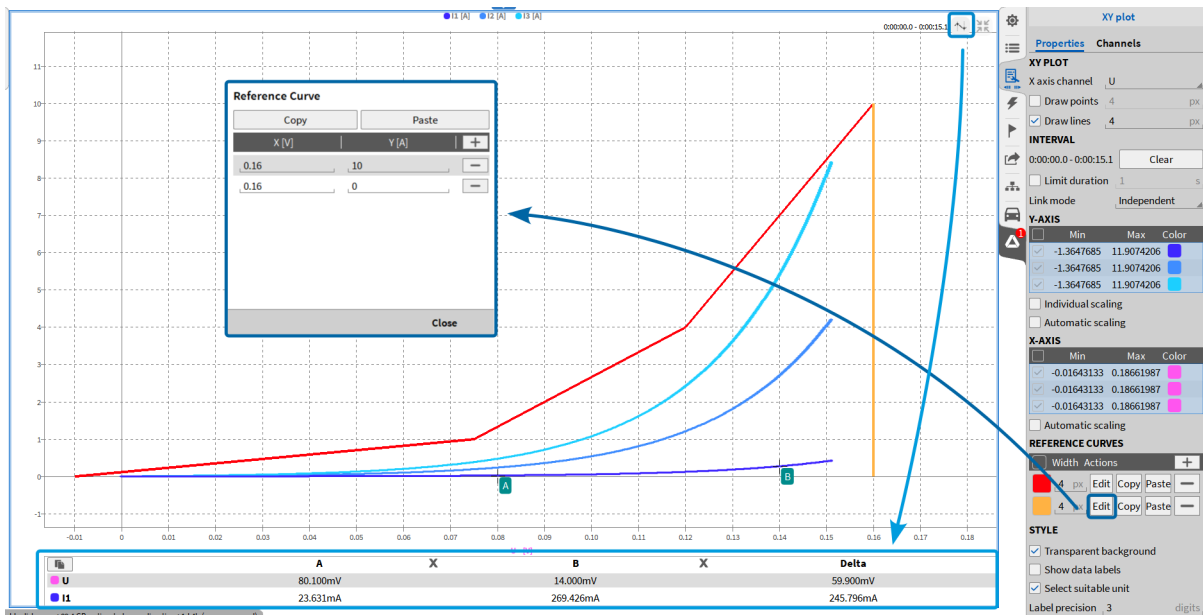

Fig. 8.41: XY plot – highlighted reference curve settings and A/B cursors
- Click Edit to define the reference curve by entering X and Y coordinates. OXYGEN will draw linear segments between the defined points (see Fig. 8.41).